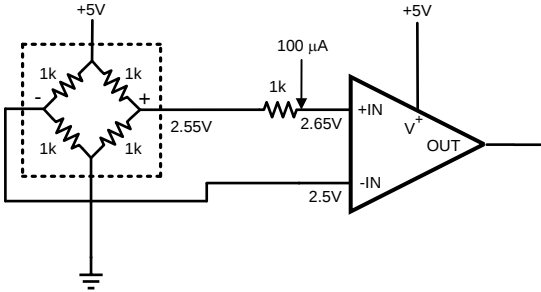
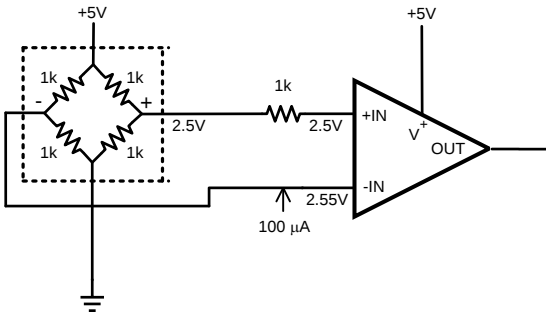

Figure 59. Degraded Input Line, Step 1
Figure 60. Degraded Input Line, Step 2
Figure 59 shows an example of a degraded connection between the bridge and the +IN pin of the LMP8358. This fault is shown by the 1 kΩ resistor placed between the bridge and the LMP8358. To detect this fault use the 1/50 feature by setting MUX[1:0] to 10b to test the +IN pin, POL to 0b, and G[2:0] to 010b for a gain of 50. This will give an overall gain of 1. Set CUR[2:0] = 101b to inject a 100μA current and read the output voltage (5082x). Next set MUX[1:0] to 11b and PIN to 1b to test the –IN pin as shown in Figure 60 and read the output (58C2x). If the voltages of these two measurements are different a degraded input fault exists.
* The values shown for a degraded input line will vary depending on the resistance in the line. This table uses the value in Figure 59 and Figure 60, 1k Ω .